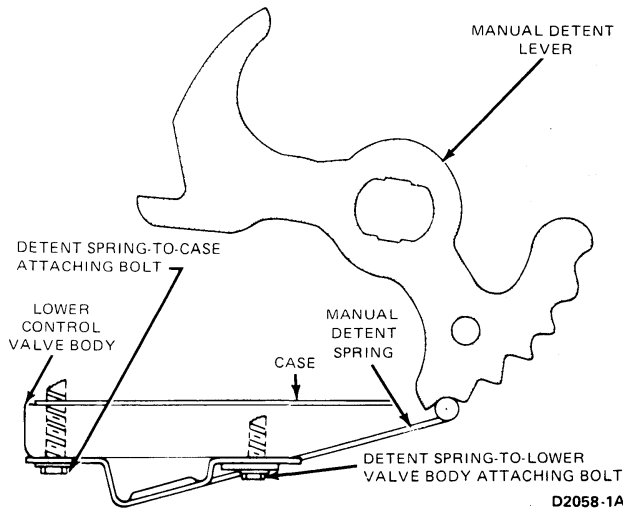

FIG. 7 Control Valve Body Detent Spring Installed
4. Shift the transmission manual lever to the P position and remove the two bolts that attach the detent spring to the valve body and case (Fig.7).
9. Position the detent spring to the lower valve body and install the spring-to-case bolt finger tight (Fig. 7).
10. Hold the detent spring roller in the center of the manual detent lever and install the detent spring-to-lower valve body bolt (Fig. 7). Tighten the bolt to 9.5-13.5 N·m (80-120 in-lbs) torque.